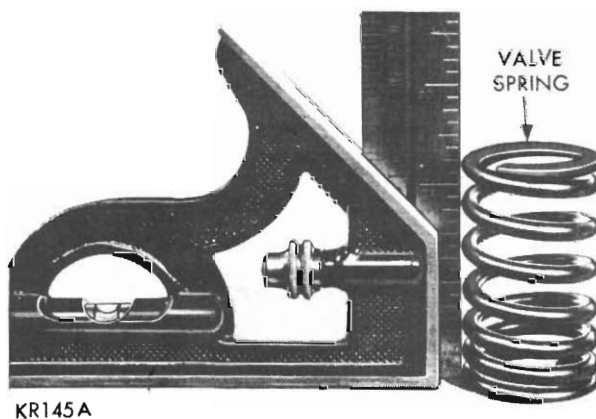

Fig. 8 - Checking valve spring squareness
(1) Whenever valves have been removed for inspection, reconditioning or replacement, the valve springs should be tested. Valve springs should meet the specifications shown on Page 9-53.
(2) Inspect each valve spring for squareness with a steel square and surface plate, test springs from both ends (*Fig. 8*). If the spring is more than 1/16 of an inch out of square, install a new spring. 340 C.I.D. engines have a limit of .080" max. out of square.